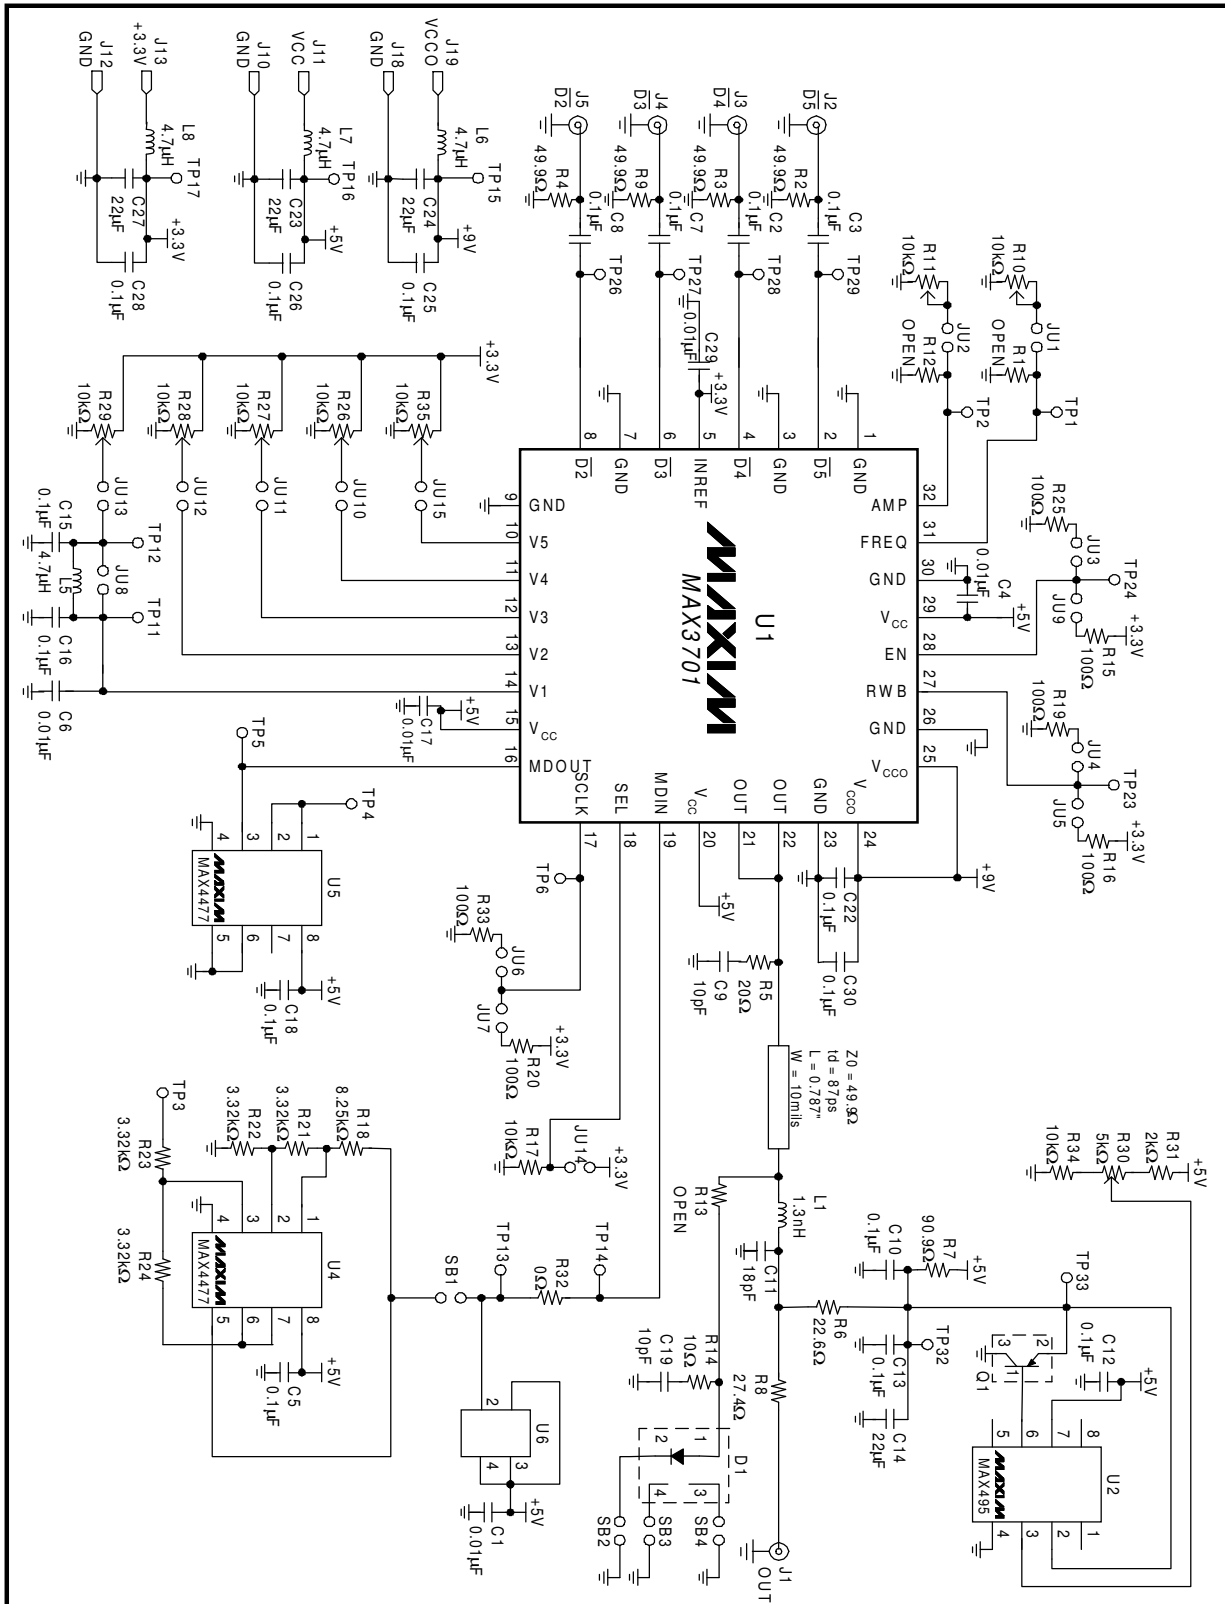

Figure 1. MAX3701 EV Kit Schematic Diagram
- 12) Connect the laser diode in the proper orientation. Refer to the schematic in Figure 1 for the proper orientation.